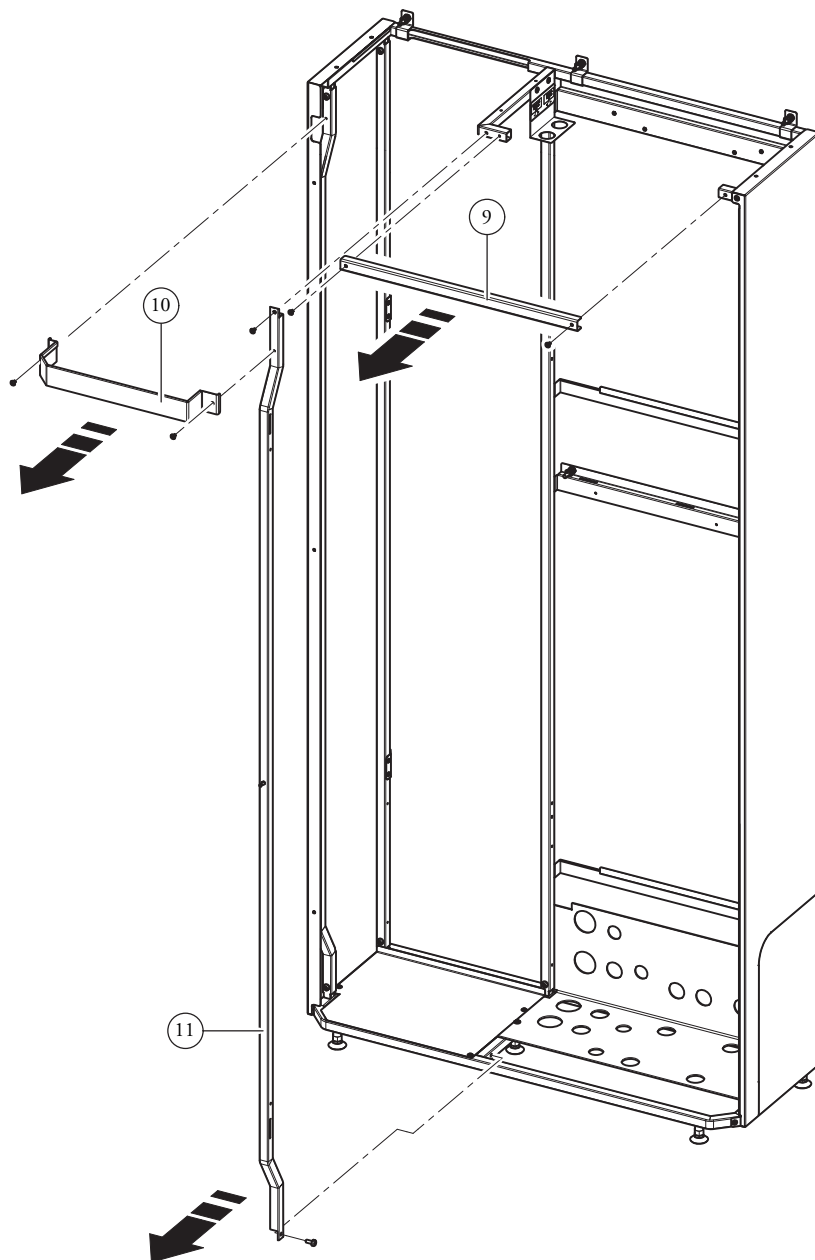

Fig. 4
- In order to easily install the products inside the Domus Container, it is recommended to temporarily remove the appliance front metal-sheet plate (9), the storage tank unit front metal-sheet plate (10) and the front pipe (11) (Fig. 4). Carry out the operations in inverse order to reassemble the previously removed parts.